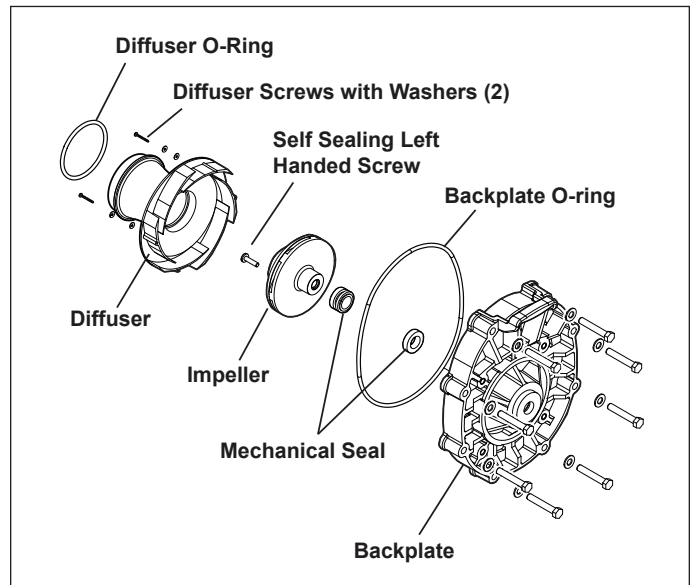

Figure 9. Diffuser and Impeller Exploded View
1. Press the new carbon face seal half, see Figure 9, on the motor shaft using a twisting motion. Make sure the carbon surface is facing toward the ceramic ring in the backplate.
2. Remove the carbon face seal half, see Figure 9, from the motor shaft. This is a spring-loaded seal. Grasp the portion of the seal closest to the impeller body and pull the seal off using a twisting motion.